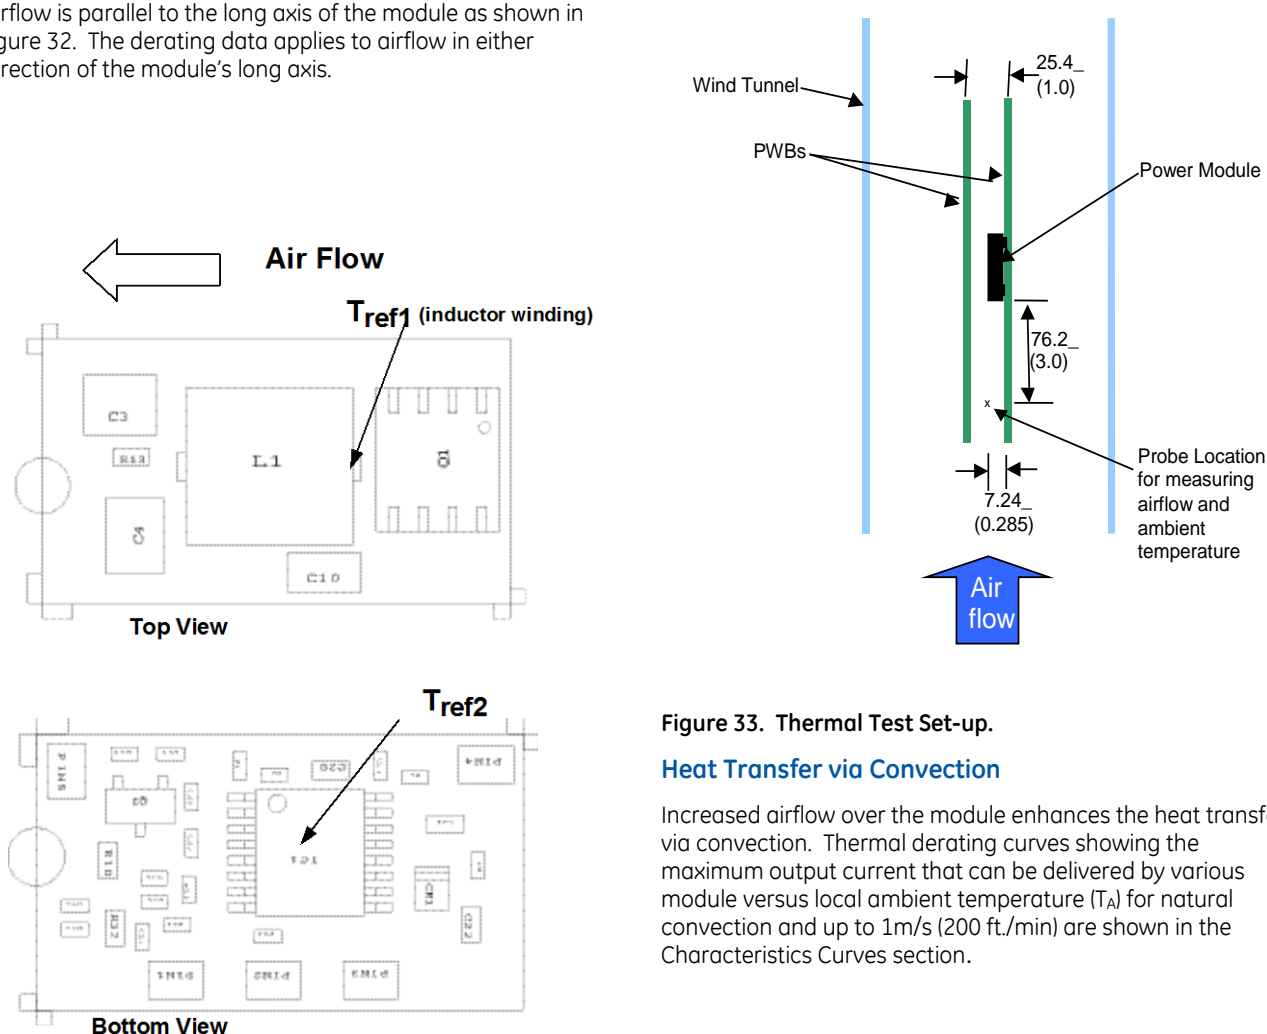

Figure 33. Thermal Test Set-up.
To provide over temperature protection in a fault condition, the unit relies upon the thermal protection feature of the controller IC. The unit will shutdown if the thermal reference point T_{ref2} , (see Figure 33) exceeds 140°C (typical), but the thermal shutdown is not intended as a guarantee that the unit will survive temperatures beyond its rating. The module will automatically restarts after it cools down.
Considerations include ambient temperature, airflow, module power dissipation, and the need for increased reliability. A reduction in the operating temperature of the module will result in an increase in reliability. The thermal data presented here is based on physical measurements taken in a wind tunnel. The test set-up is shown in Figure 33. Note that the airflow is parallel to the long axis of the module as shown in figure 32. The derating data applies to airflow in either direction of the module's long axis.